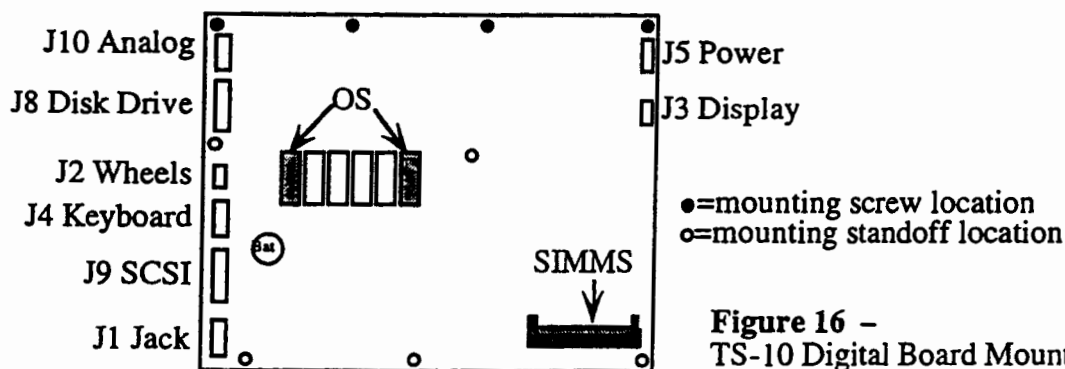

Figure 16 -
2. Turn the unit upsidedown and remove all the screws from the base and rear panel. **Note** that six (6) screws along key tip edge are self-tapping.
4. Remove the four (4) screws that hold the digital board to the keyboard bracket, see Figure 16.
5. Pop the digital board off the five (5) standoffs by squeezing the standoffs with needlenose pliers:
- a) three (3) on back of digital board to I/O bracket
- b) two (2) in the middle of the digital board.